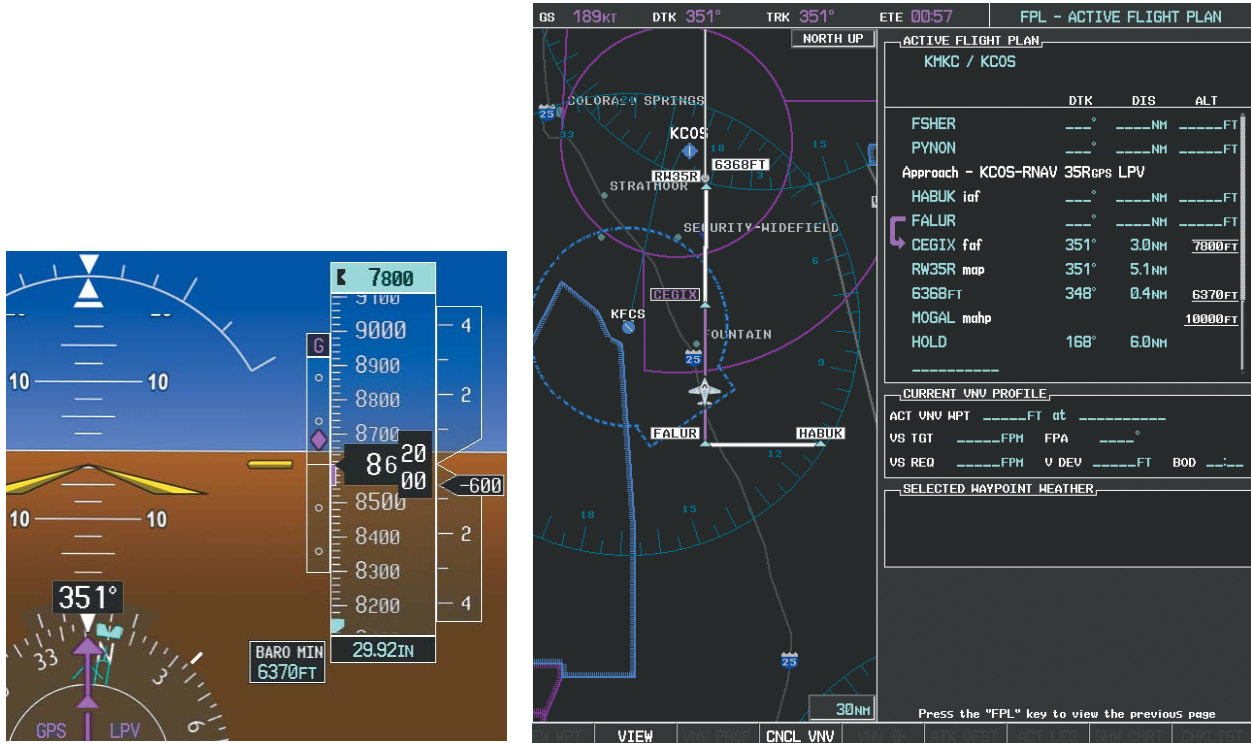

Figure 5-144 Descending to the FAF
- 23) After crossing FALUR the next waypoint is the FAF. The flight phase changes to LPV on the HSI indicating the current phase of flight is in Approach Mode and the approach type is LPV. CDI scaling changes accordingly and is used much like a localizer when flying an ILS approach. The RVSI is no longer displayed and the VDI changes to the Glidepath Indicator (as shown in Figure 5-144) when the final approach course becomes active.